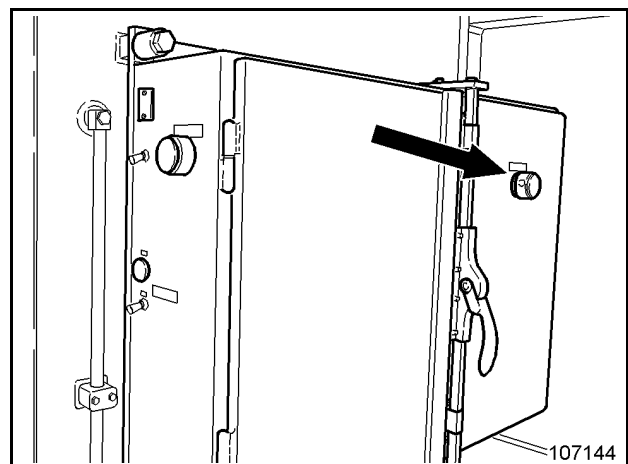

Fig. 2-32:
- by pressing the switch (red) on the control cabinet in the engine module (Fig. 2-32:),